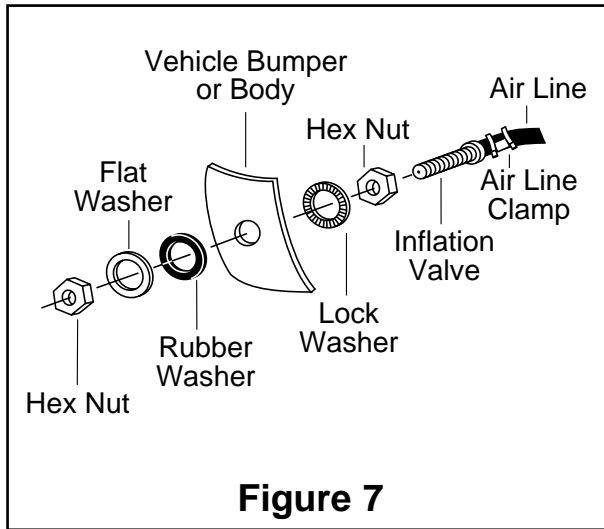

Figure 7
- J. Drill a 5/16" hole for inflation valve and mount as in illustration (Figure 7). Rubber washer is for outside weather seal.
- F. Drill 5/16" hole for inflating valves and mount as illustrated. Rubber washer is for outside weather seal (Figure 7).